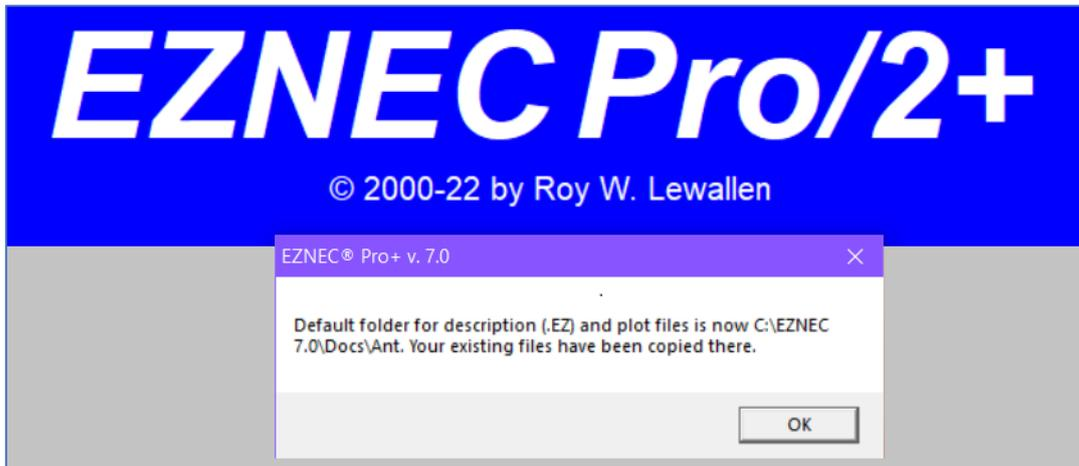
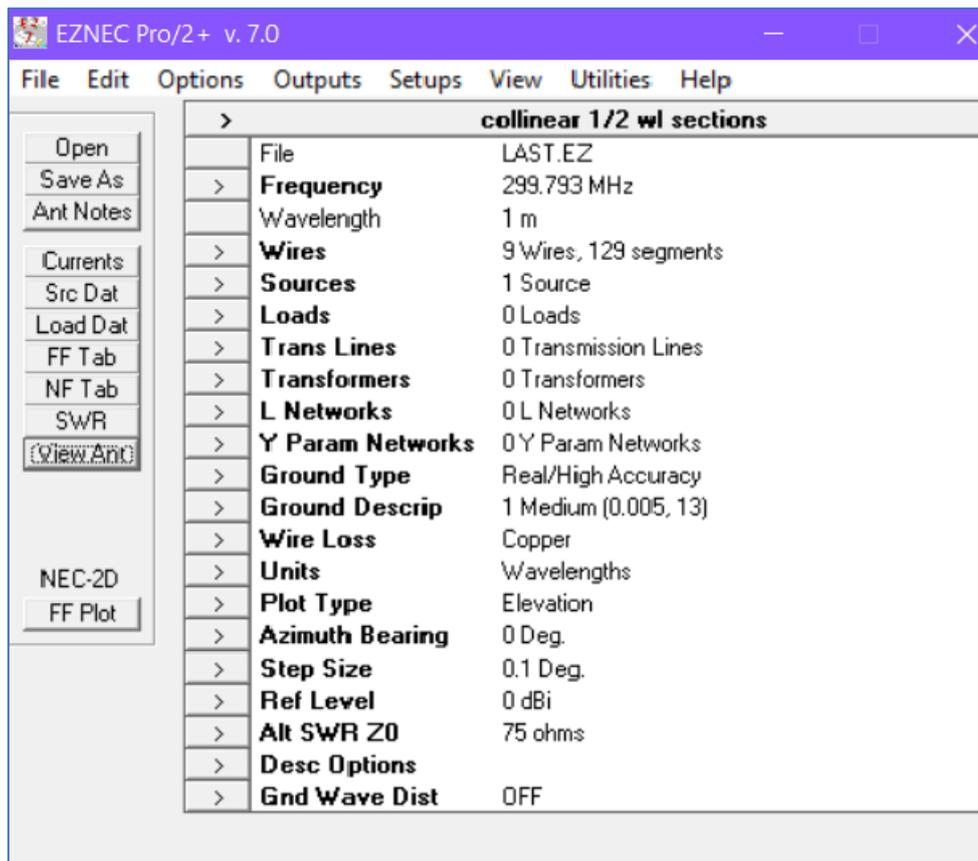

Figure 1. When starting EZNEC Pro+ v. 7.0.
Figure 2. The EZNEC Control Center screen.
When the installation is done, the program itself is situated in folder **C: > Program Files (86) > EZNEC 7.0 - Figure 1**, and a folder **EZNEC 7.0** is created in the root **C: - Figure 2**.
When you start for the first time, EZNEC program, this message is displayed – **Figure 1**. After clicking the **OK** button, the Control Center screen is displayed – **Figure 2**, and then every time you launch EZNEC.